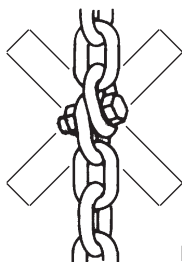

Fig. 7
- **Do not** knot or shorten the load chain by using bolts, screws, screw drivers or other devices (Fig. 7).